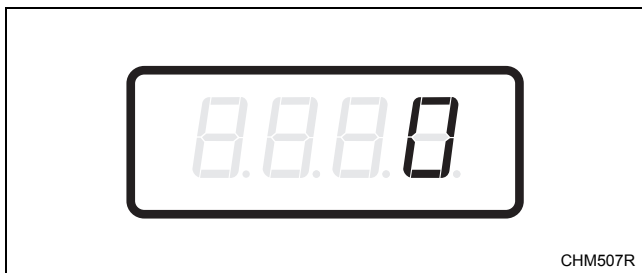

Figure 14
4. When “AtS2” appears in the display, press the START (enter) keypad. There are five digits in the Vend Price #2. The fifth digit will appear in the display and will flash one second on, one second off. Refer to *Figure 14*.